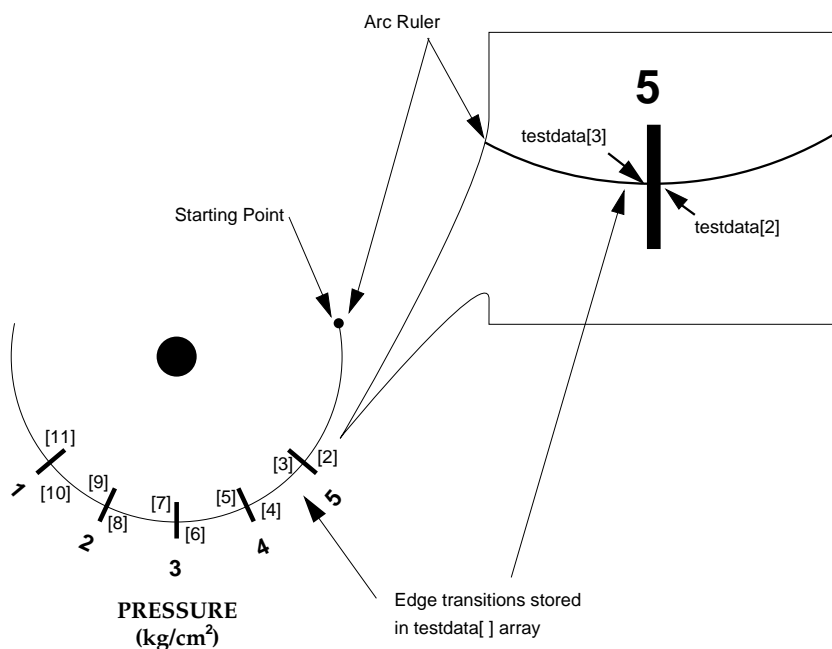

Figure 10-7. Arc Ruler Example
**Figure 10-7** shows the ruler and transition points resulting from the preceding code.1